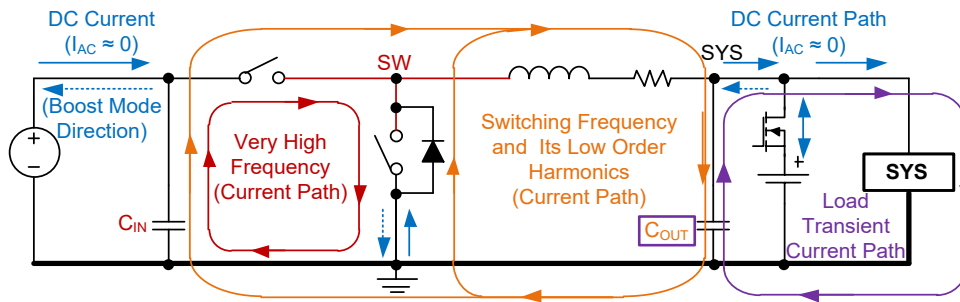

Figure 21. The Paths and Loops Carrying High Frequency, DC Currents and Very High Frequency (for Layout Design Consideration)
The switching node (SW) creates very high frequency noises, which are several times higher than f_{sw} (1.5MHz) due to sharp rise and fall times of the voltage and current in the switches. To reduce the ringing issues and noise generation, it is important to design a proper layout for minimizing the current path impedance and loop area. A graphical guideline for the current loops and their frequency content is provided in Figure 21. The following considerations can help to make a better layout.